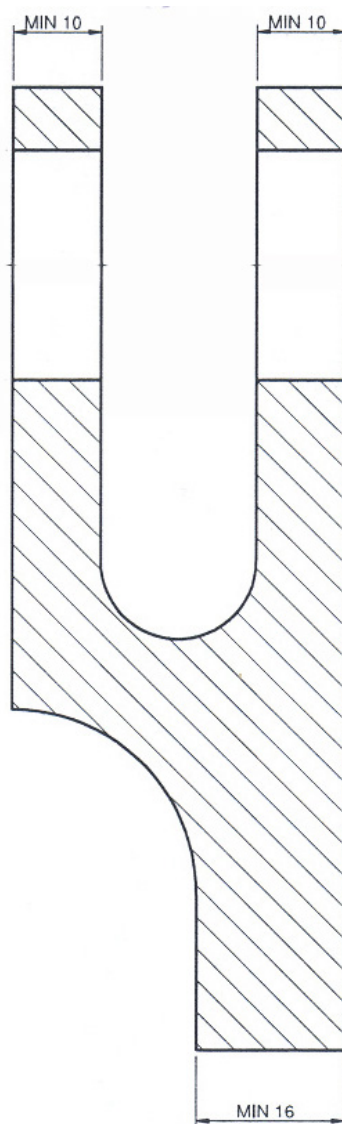

Figure 1: Thickness Limits for Stem and Fork Ends
1. Examine link for corrosion, wear or damage. See Figure 1 for minimum thickness.